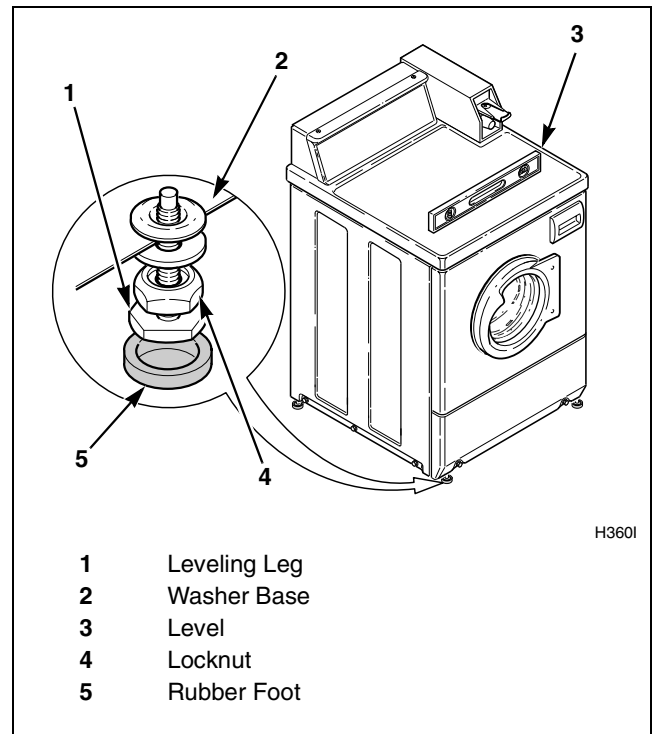

Figure 8
**NOTE: Level must rest on raised portion of top panel. Refer to *Figure 8*.**